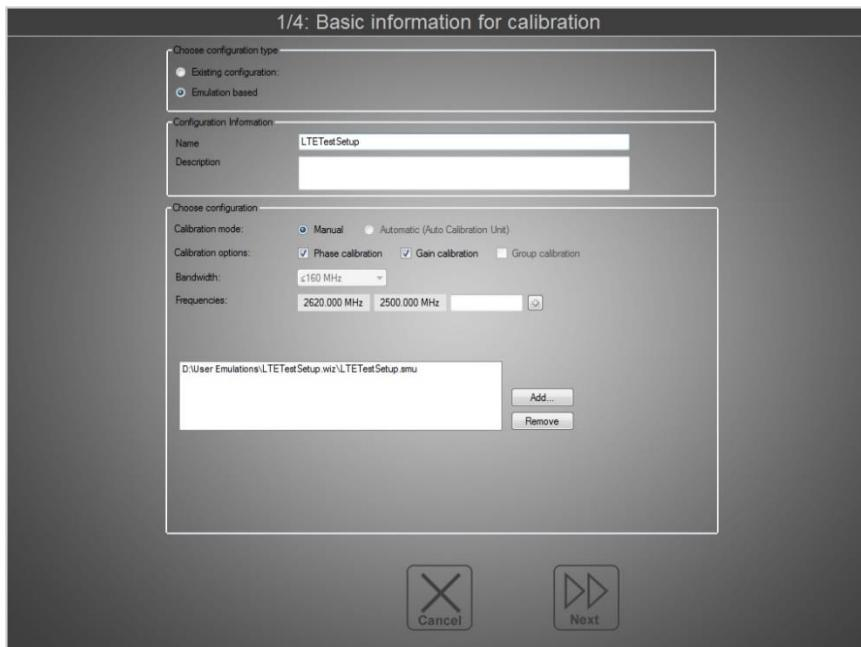

Figure 241 Emulation based configuration
- Configuration is gathered from emulation files, see Figure 241.
Configuration can be modified after emulations have been added by selecting **Existing configuration**. Existing configuration is now in “<Emulation Based>” mode (see Figure 241).